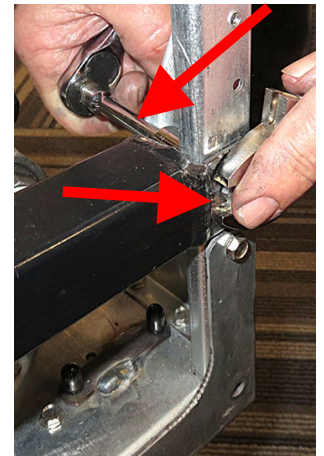

Figure 38
37. Remove the bolt and nut, attaching the return oil manifold to the left cabinet frame, as viewed from the front of the fryer (see Figure 38).
- 40. Replace the bolt and nut removed in step 37 (see Figure 38).